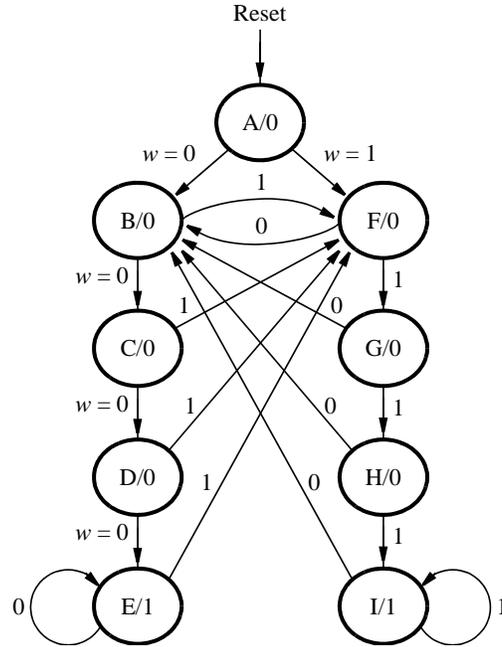

Figure 2. A state diagram for the FSM.
A state diagram for this FSM is shown in Figure 2. For this part you are to manually derive an FSM circuit that implements this state diagram, including the logic expressions that feed each of the state flip-flops. To implement the FSM use nine state flip-flops called  $y_8, \dots, y_0$  and the one-hot state assignment given in Table 1.
For this part you are to write another style of Verilog code for the FSM in Figure 2. In this version of the code you should not manually derive the logic expressions needed for each state flip-flop. Instead, describe the state table for the FSM by using a Verilog **case** statement in an **always** block, and use another **always** block to instantiate the state flip-flops. You can use a third **always** block or simple assignment statements to specify the output  $z$ . To implement the FSM, use four state flip-flops  $y_3, \dots, y_0$  and binary codes, as shown in Table 3.
4. To examine the circuit produced by Quartus II open the RTL Viewer tool. Double-click on the box shown in the circuit that represents the finite state machine, and determine whether the state diagram that it shows properly corresponds to the one in Figure 2. To see the state codes used for your FSM, open the **Compilation Report**, select the **Analysis and Synthesis** section of the report, and click on **State Machines**.